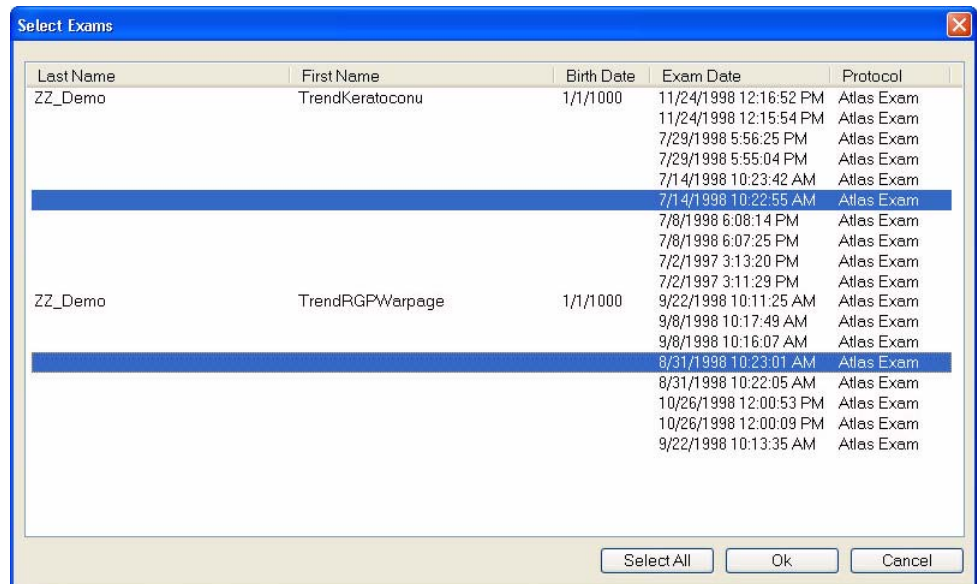

Figure 11-23 Select Exams Dialog
- If you want to select only certain exams for a patient, rather than all exams, select the patient or patients, and then select the **Select Exams** button. The **Select Exams** dialog appears. Select the desired exams: **Click** to select one exam; **Ctrl-click** to select multiple exams (Figure 11-23). Click **Select All** to select all exams. Select **OK** when you're done.